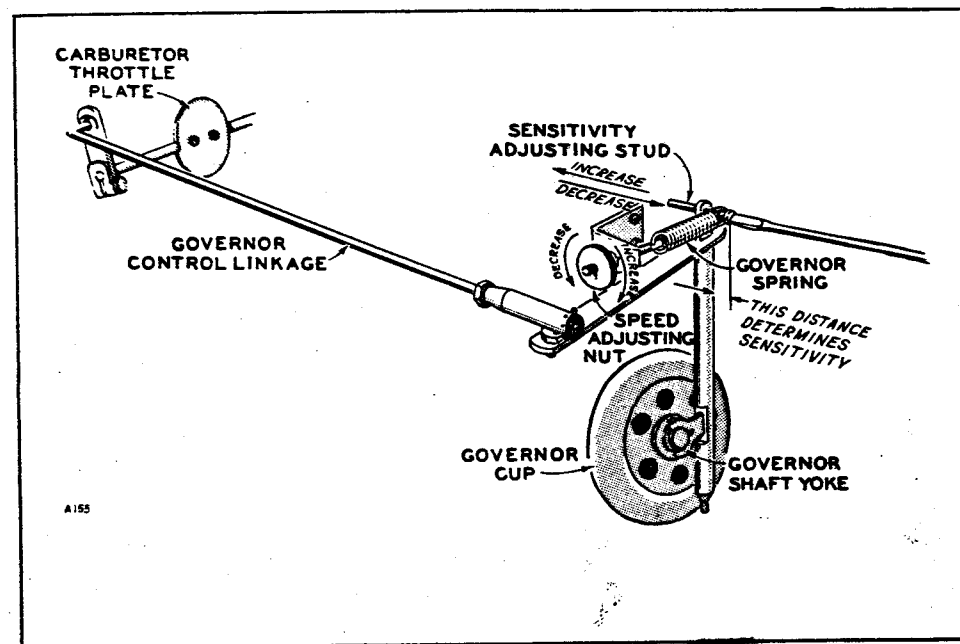

Fig. 19 Governor Adjustments
1. With the plant operating at no load, turn the speed adjusting nut, Fig. 19, to obtain a frequency reading of between 60 and 63 cycles for a 60 cycle plant (50 to 53 cycles for a 50 cycle plant). The voltage should be within the limits shown in the table III according to the rated voltage shown on the plant nameplate.
2. Connect a full electrical load to the generator. The governor should act smoothly and quickly to keep the voltage and frequency within the limits shown in the table. However, there should be not more than a spread of 3 cycles between the no load frequency and the full load frequency. For example, if the frequency was 62 cycles at no load, then the full load frequency should be not less than 59 cycles. If the cycle spread is more than 3 cycles, turn the sensitivity adjustment screw, Fig. 19, in (clockwise) a half turn. This will, in turn, necessitate a slight compensating speed nut adjustment. Repeat the process until the cycle spread is within 3 cycles, and voltage is within the limits shown in the table.